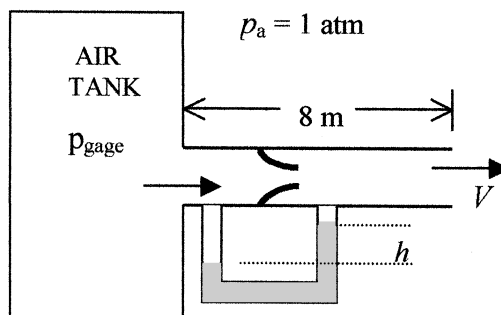

Fig. P6.149
6.149 In a laboratory experiment, air at 20°C flows from a large tank through a 2-cm-diameter smooth pipe into a sea-level atmosphere, as in Fig. P6.149. The flow is metered by a long-radius nozzle of 1-cm diameter, using a manometer with Meriam red oil (SG = 0.827). The pipe is 8 m long. The measurements of tank pressure and manometer height are as follows: